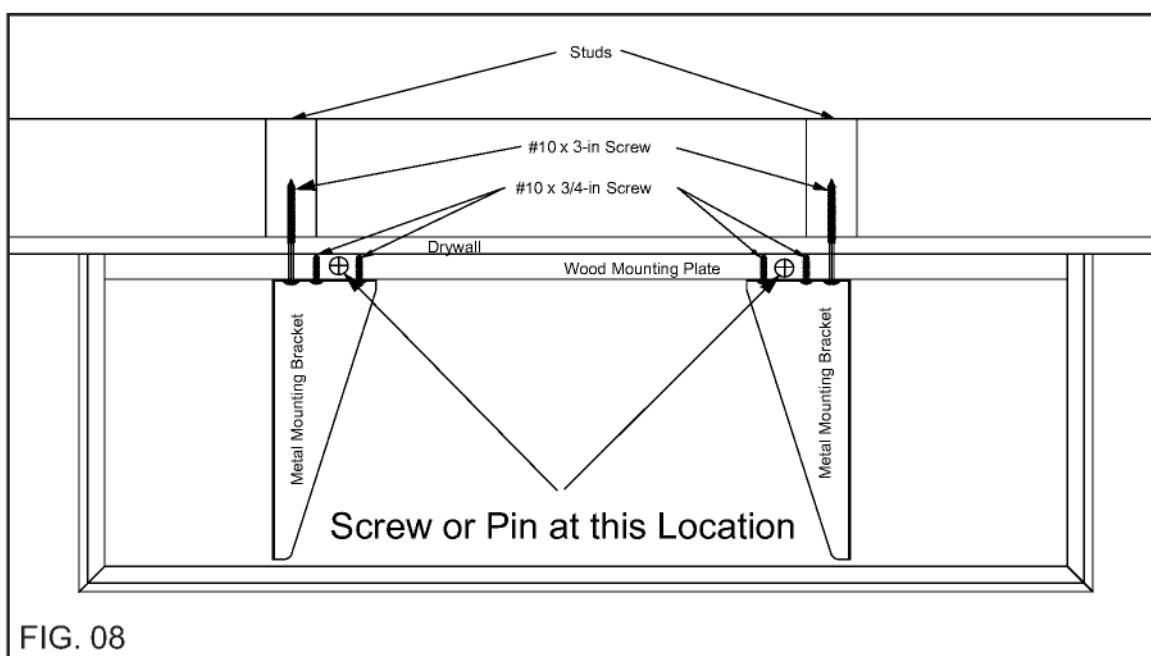

FIG. 08
Step 8: When you are satisfied that the **Floating Shelf** is located correctly, screw or pin the **Floating Shelf** to the **Wood Mounting Plate** as shown. When using the **#6 x 3/4-in Flat Head Screws** provided, drill 1/8-in dia pilot holes in the **Floating Shelf** at the 2 locations shown in Fig. 08 prior to inserting the screws.